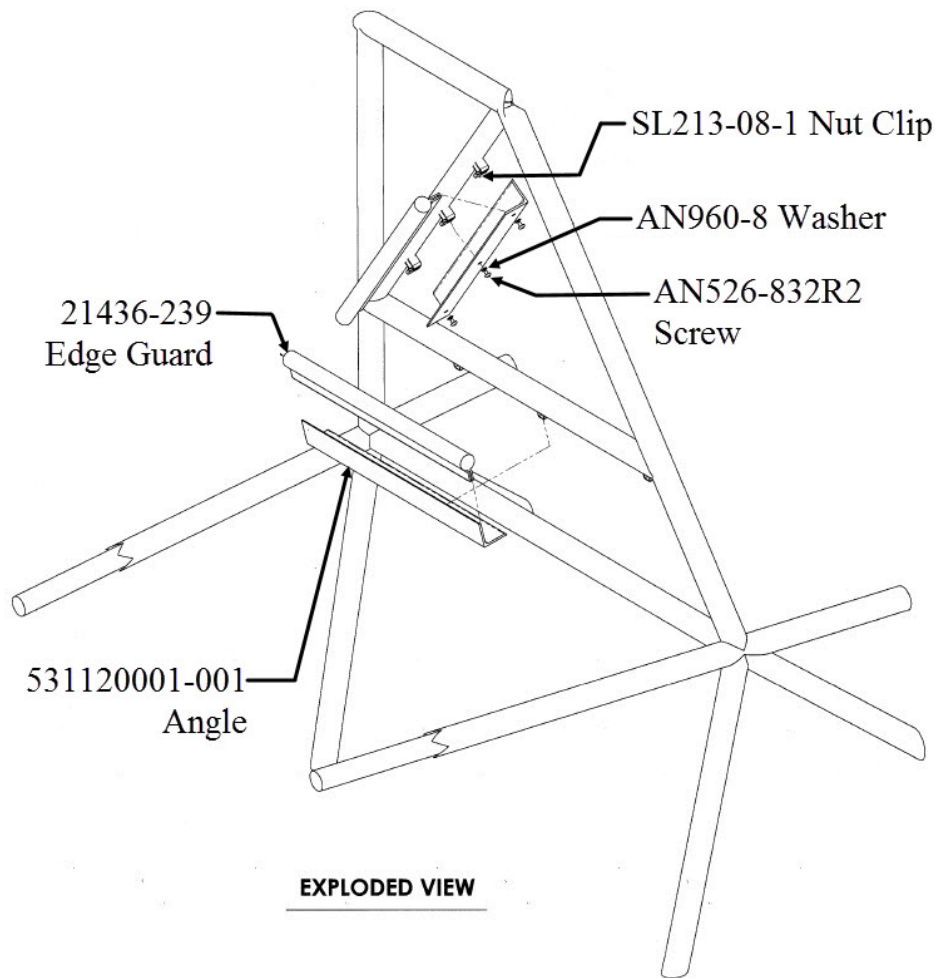

Figure 45-2
- (4) MS21044-N6 Nut
- a) Insert edge guard and angle flange (2 plcs) as shown in Figure 45-2.